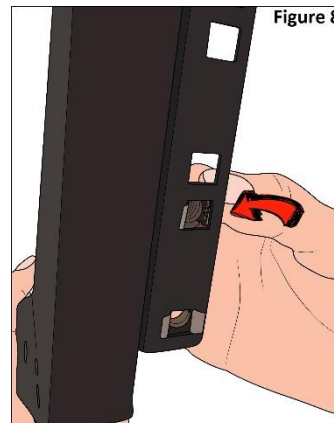

Figure 8
Step 6 – Determine which slots you want your gear in and attach the supplied 20 cage nuts as shown in **FIGURE 8**. (For more information on how these work, go to YouTube and search “cage nut use.”)